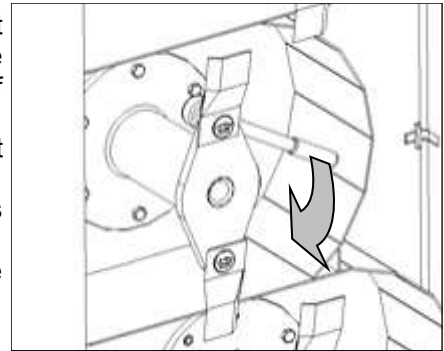

Fig. 43
6. Use a 19mm (3/4") socket to undo the self-locking nut that secures the blade bolt (Fig. 43).